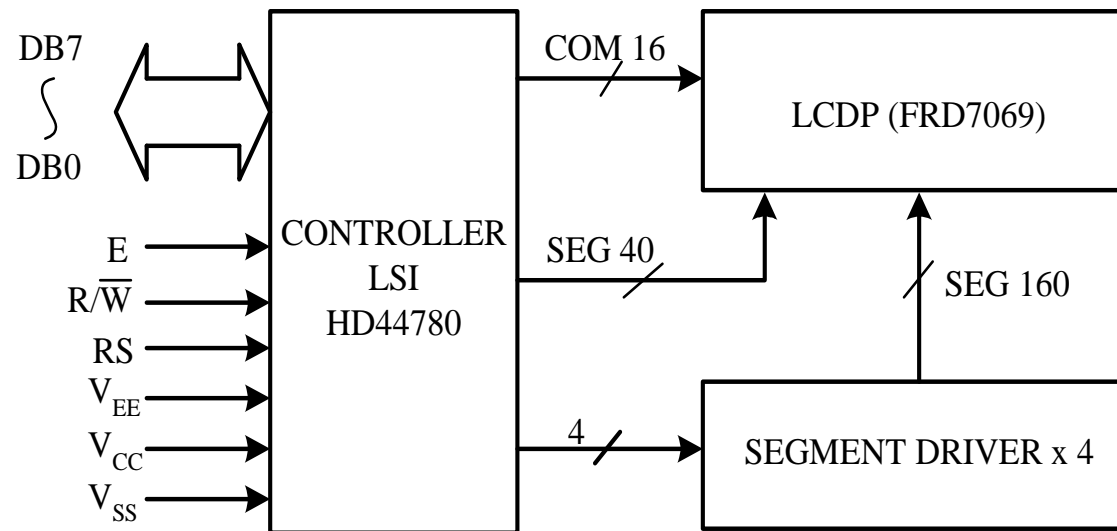

Figure 7.20 Block diagram of the DMC-20434 LCD kit
- Block diagram of the HD44780 is shown in Figure 7.20.